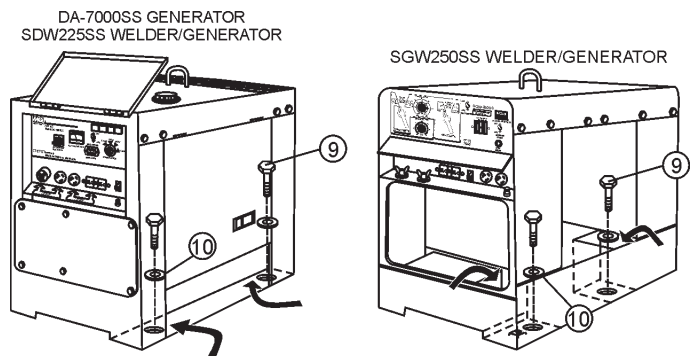

Figure 5. Insert Bolts/Washers through Cabinet Floor
5. Locate the four bolt holes on the underside of the cabinet near the front and rear of the machine. Reach into the cabinet and place a bolt and washer through each hole (Figure 5). A flashlight might be necessary to find the bolt holes in the cabinet floor.